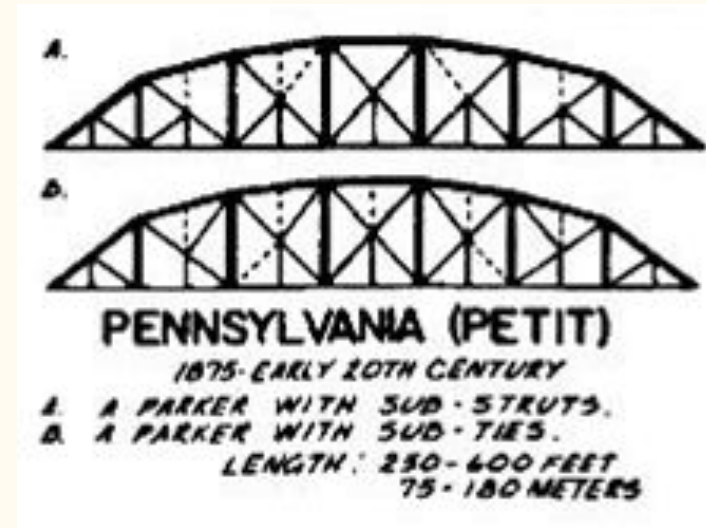

Fig 4 Shows the Pennsylvania Truss Design (Source: HAER)
- Polygonal top chords (see fig 4)